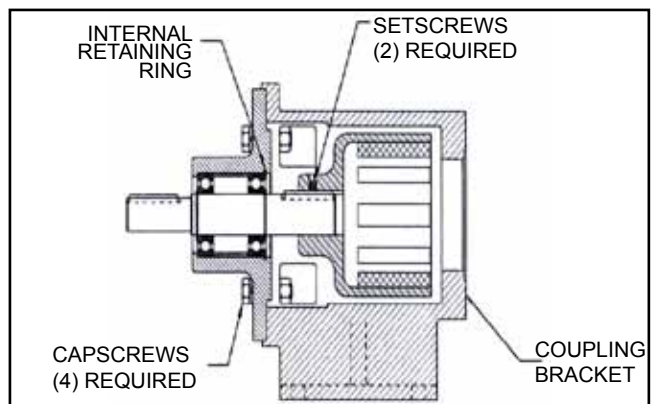

FIGURE 18
5. You should be able to visually inspect the outer magnets from the end of the bracket. If removal is necessary, start by removing the (4) capscrews (**See Figure 18**) and separating the bracket from the motor or bearing carrier. Loosen the setscrews on the motor or bearing carrier shaft and pull the outer magnet assembly off. If the unit features a bearing carrier, the bearings should not require maintenance since they are sealed. If necessary, disassemble by removing the single internal retaining ring then press the shaft and bearings out of the housing. Remove the external retaining rings from the shaft to remove the bearings.